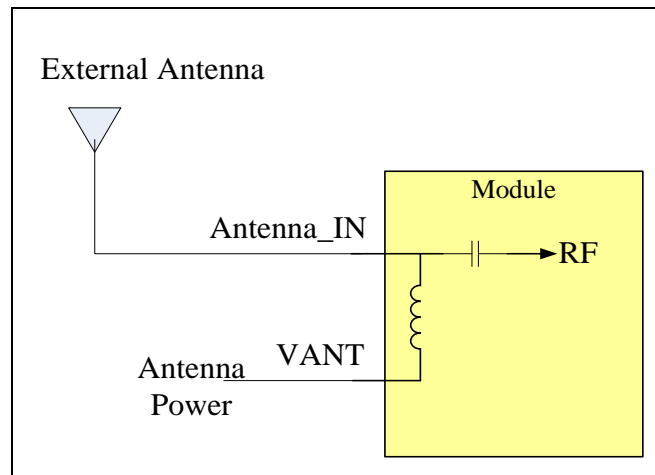

Figure Mode 1 (Internal chock coil)
- Mode1 (ex. **SL3C, Gmm-u1315**), the power supply for the External Antenna needs to be externally feed into pin VANT of the module and connect to Antenna_IN via a internal chock coil. See Figure Mode 1.